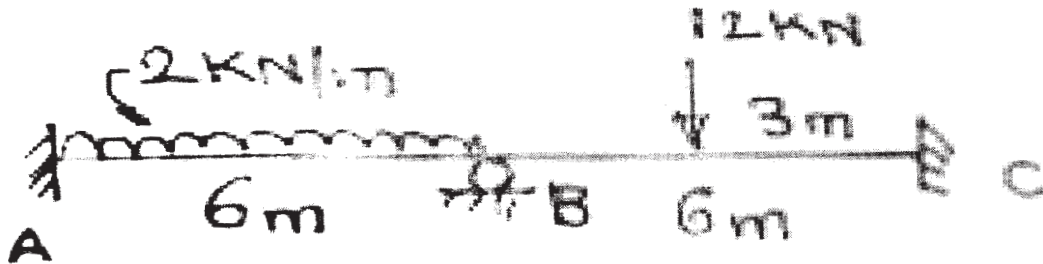

Fig. 2 (b)
- b)** Analyze the continuous beam as shown in fig. by slope deflection method and draw SFD and BMD Refer Fig. 2 (b). [9]
- Q3) a)** Analyse the beam shown in Fig. 2 (b) by Moment Distribution Method. Draw BMD and SFD. [8]